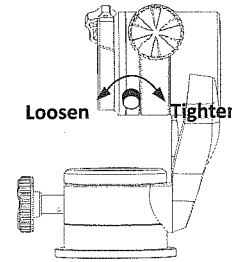
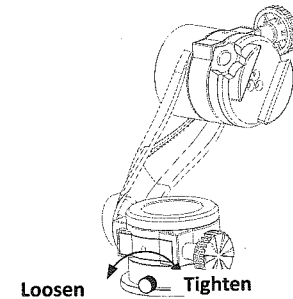
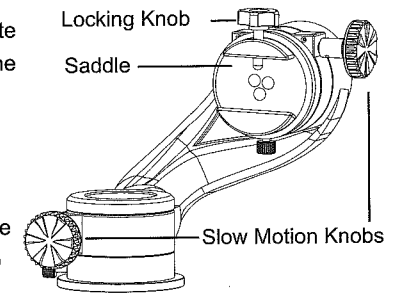

Fig. 2.1a
Fig. 2.1b
Fig. 2.2
1. Use the knobs indicated in Fig. 2.1a and Fig. 2.1b to adjust the tension of the clutches of altitude axis and azimuth axis.
1. Loosen the altitude clutch (Fig. 2.1a) and rotate the saddle to level the dovetail groove, with the locking knob above the saddle (Fig. 2.2), and then fully tighten the altitude clutch again.